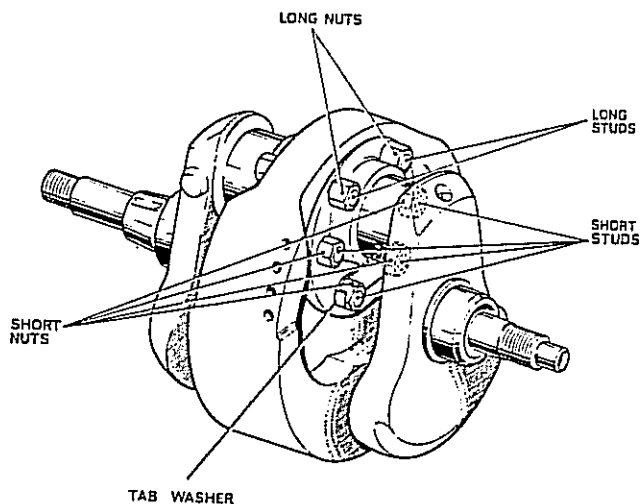

Fig. C33 Showing crankcheek to flywheel securing hardware
- 2 Fit the plain shell into the connecting rod cap and again locate the tab. The tab positions are shown in Fig. C33.